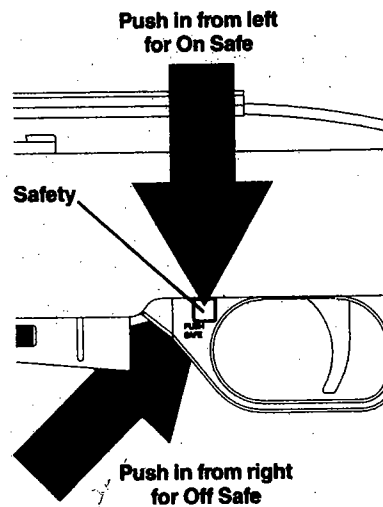

Fig. 1
- To put the air rifle "On Safe," locate the safety directly in front of the trigger. Push the safety from the left side all the way in. (Fig. 1). The safety is not on unless it is pushed all the way in and the orange line around the safety is not showing. The air rifle will not fire when "On Safe."